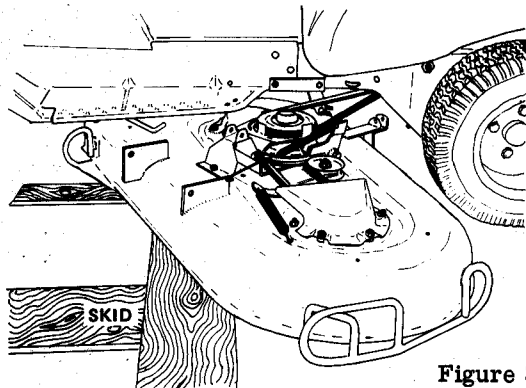

Figure 3.
b. Place the wooden skid upside down on the floor. Place the mower pan on the skid and place the tractor along side the pan. Install belt around mower sheave and replace belt finger. See Figure 3.